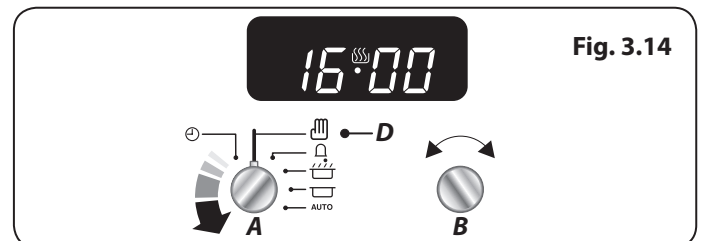

Fig. 3.14
To cancel any automatic settings turn the Timer (A) knob to the **Manual (D)** setting and release (**Fig. 3.14**).